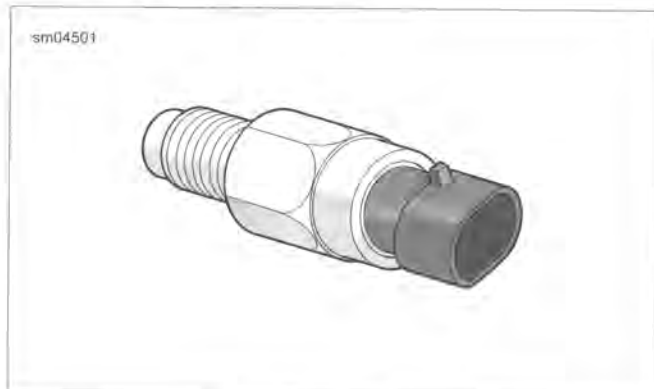

Figure 7-55. ET Sensor
4. See Figure 7-55. Remove sensor.